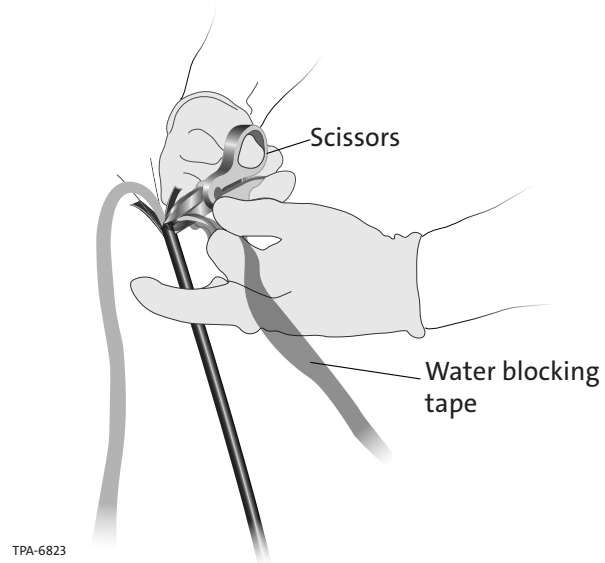

Figure 9
Step 5: Cut off and remove water blocking tape (Figure 9).